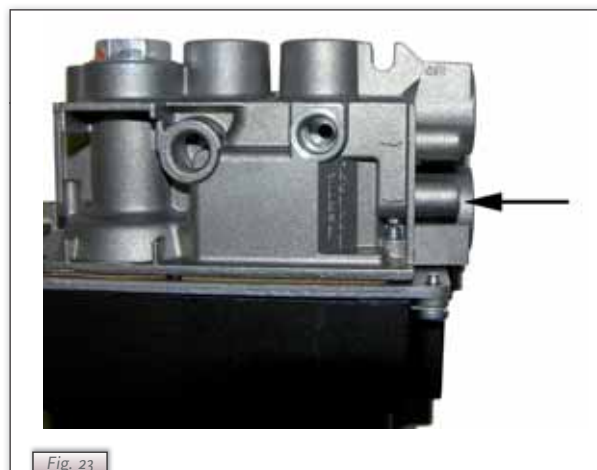

Fig. 23
- ▣▣▣▣ Check the pre-pressure; see *Fig. 23* for the measuring nipple on the gas control block.